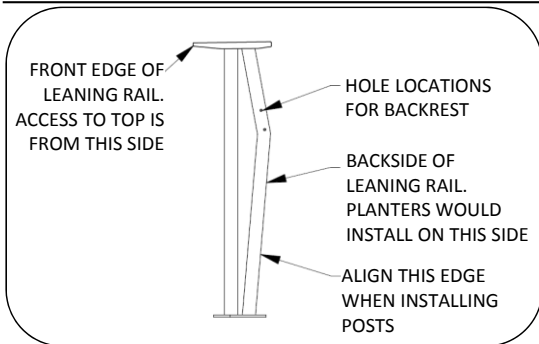
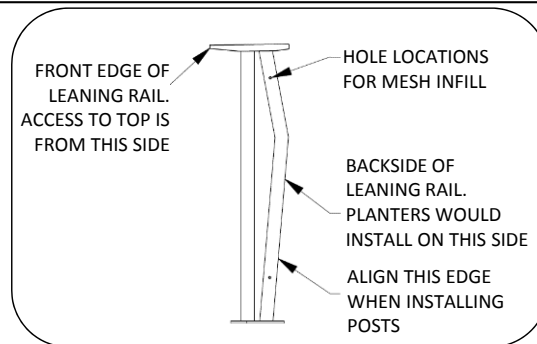

Fig. 1 – Side view of bar top, with backrest
Fig. 2 – Side view of bar top, with mesh infill
1. Determine proper support locations based on site specifications. If unit is to be installed with a backrest or mesh infill, locate supports according to tapped hole locations. The backrest is intended to be utilized on the side opposite of the access side for the leaning rail. See Fig. 1 and Fig. 2.